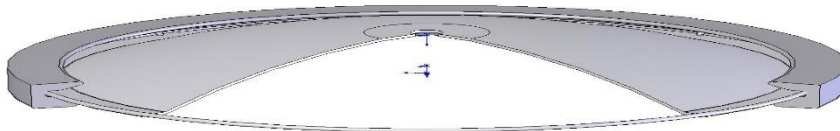

Figure 56
- B. Check if the door gasket frame, door gasket plate are installed into the gasket completely as shown in Figure 56.